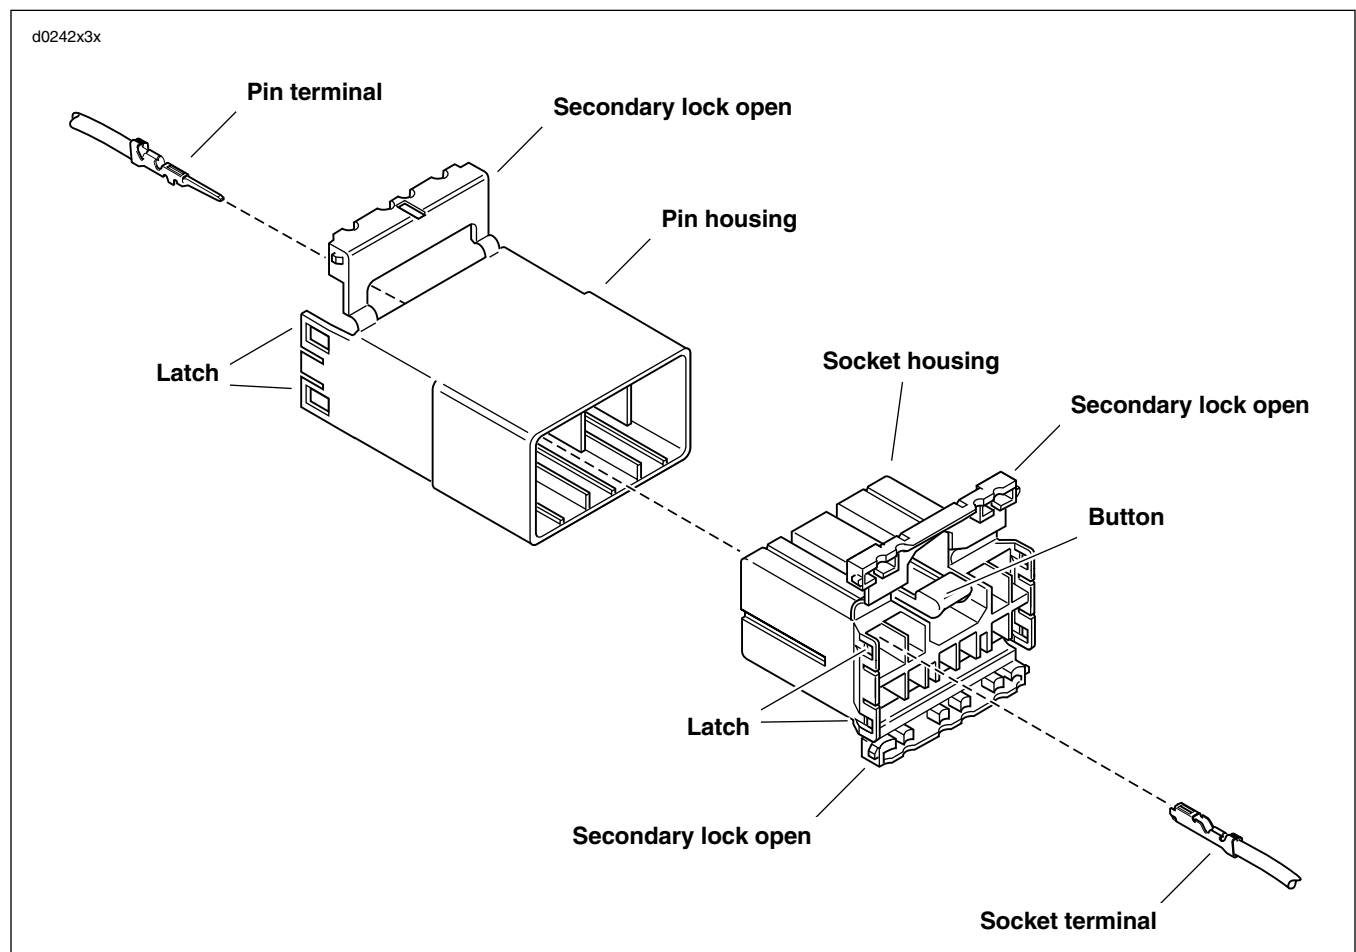

Figure B-1. 10-Place Amp Multilock Connector
5. See Figure B-1. With the flat edge against the terminal, insert the pick tool (Snap-on TT600-3) into the cavity until it stops. Pivot the end of the pick away from the terminal (locktab is inside housing) and gently tug on wire to pull terminal from chamber. Do not tug on the wire until the tang is released or the terminal will be difficult to remove. A "click" is heard if the tang is engaged but then inadvertently released. Repeat the step without releasing the tang.